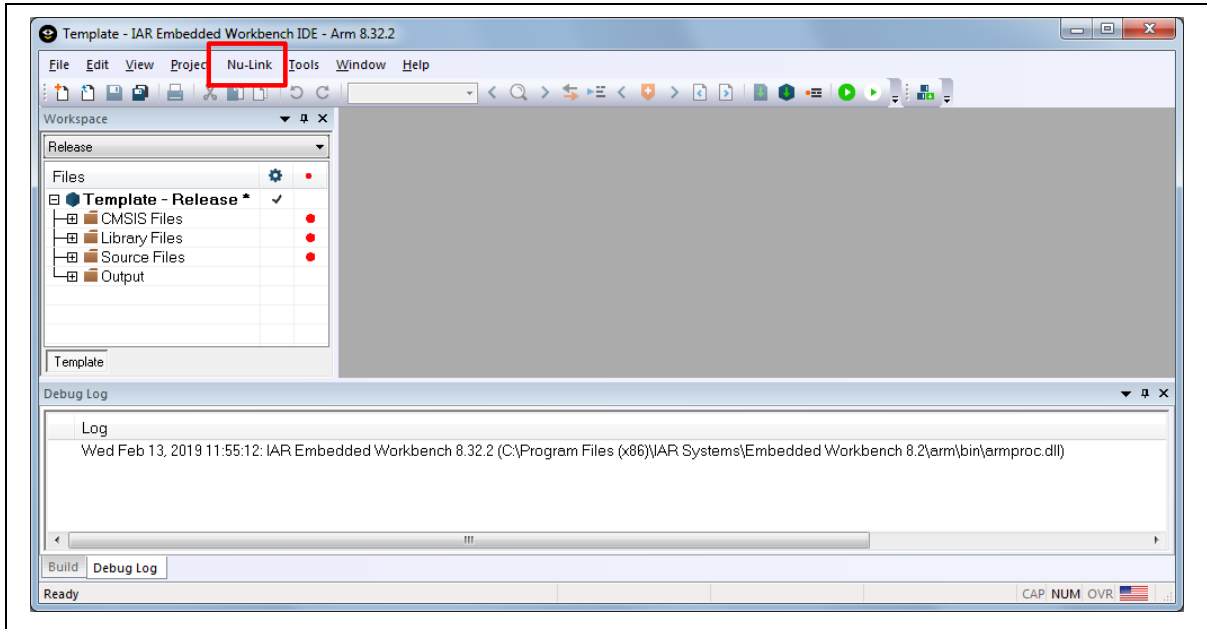

Figure 5-15 IAR EWARM Window
2. Make sure the toolbar contains “Nu-Link” item as shown in Figure 5-15.